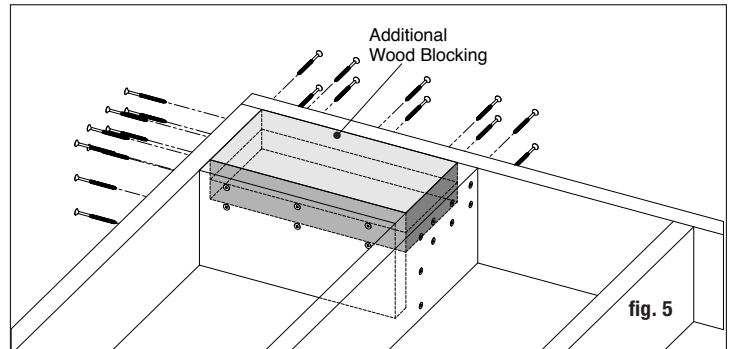

fig. 5
Step 3 Installing Posts: Install posts by attaching the aluminum base to the surface of the deck. Position the post so the fastener will go into the floor joist, and make sure the decking is firmly attached to the joist at the location of the posts. Proper structural blocking/framing under the decking material is required when attaching the post to a wood frame deck because decking alone is not approved as structural framing (fig. 5).